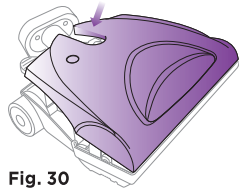

Fig. 30
- 2 Replace the power nozzle cover. Be careful not to catch and squeeze any loose wires when pushing the cover back into place. (Fig. 30)